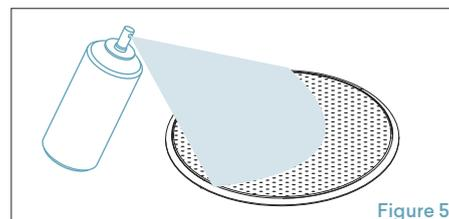

Figure 5
- Use a spray can to apply a light coat of paint. Rotate the product at 90° intervals and apply three more light coats to ensure an even coverage (figure 5).